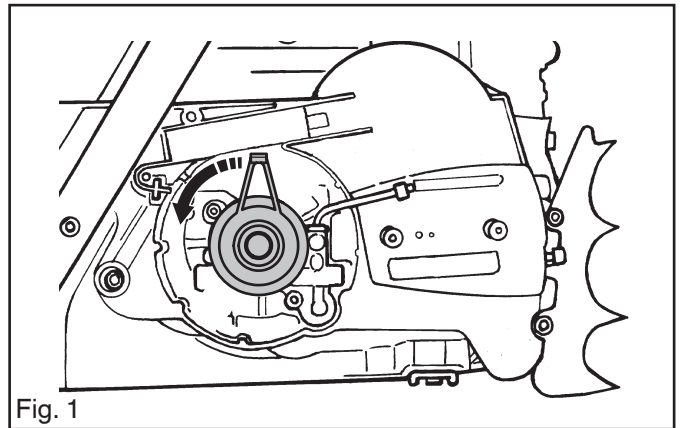

Fig. 1
- Disassemble the drive wheel. See fig. 1